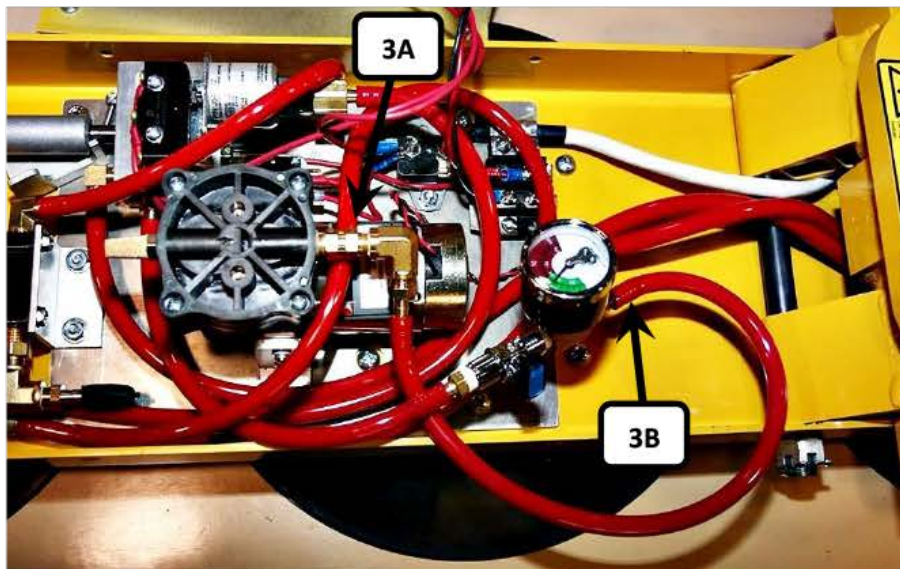

FIGURE 3
- 1) The check valve (3A) is located on the vacuum pump (may be on opposite end of pump shown if your vacuum pump is different). See FIGURE 3.